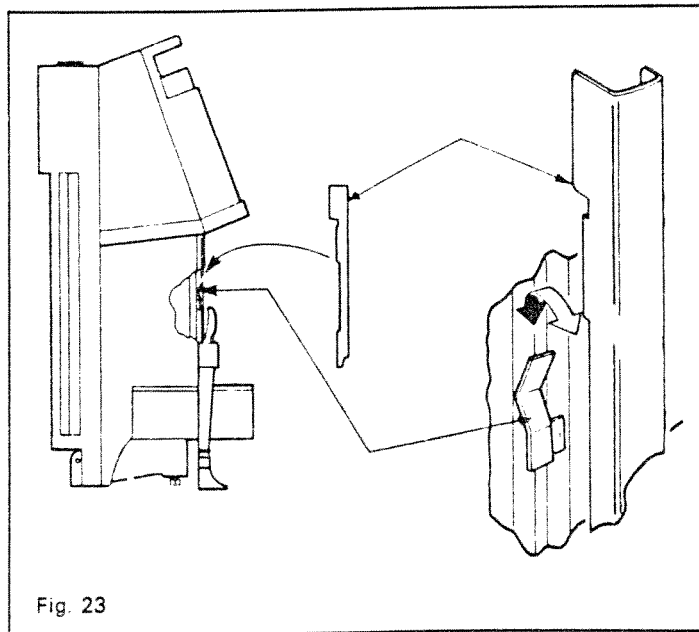

Fig. 23
- (c) Fit the window surround trim unit making sure that the vertical trims slide over the location clips on the window unit (See Fig. 23).